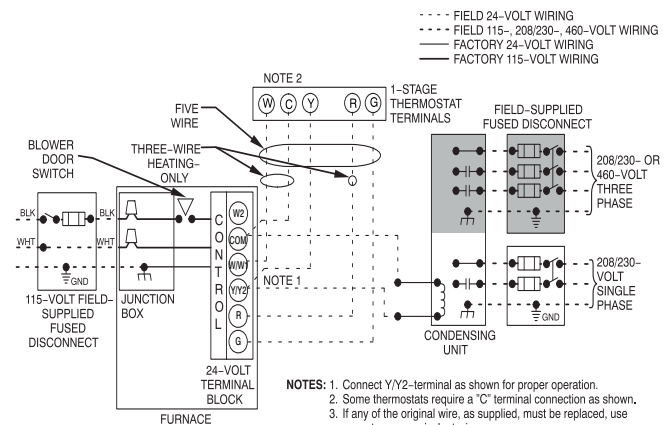

Fig. 37 – Typical Two-Stage Field Wiring Diagram
6. Connect power cord power and neutral leads to furnace power leads as shown in Fig. 37.
5. Connect field power and neutral leads to furnace power leads. as shown in Fig. 37.
Make field 24-v connections at the 24-v terminal strip. See Fig. 39. Connect terminal Y/Y2 as shown in Fig. 37 for proper cooling operation. Use only AWG No. 18, color-coded, copper thermostat wire.